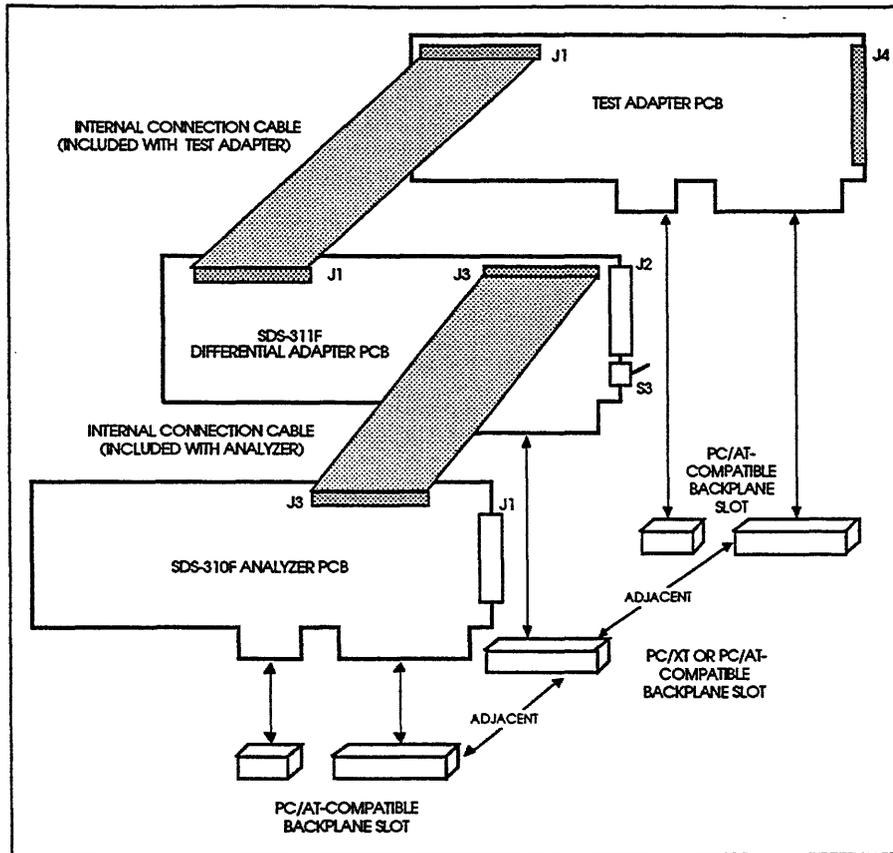

Figure 1-4.
6. If you have a SDS-310F, connect the short 50-pin cable between connector J3 on the differential adapter and connector J1 on the bus analyzer. Make sure Pin 1 is located correctly on both ends of this cable. See Figure 1-4.